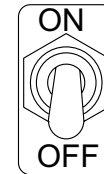

Figure 19. Electric Motor ON/OFF Switch (ON)
1. Place the electric motor's ON/OFF switch (Figure 19) in the **OFF** position.